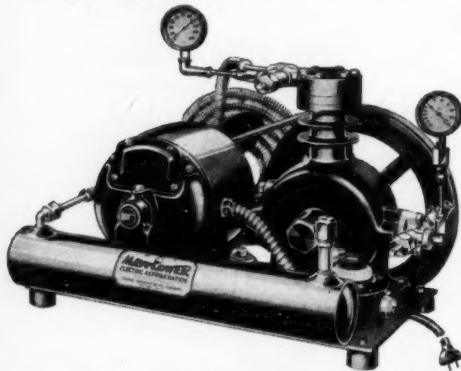

FIG. 3. SHOWING GAUGES ATTACHED
In making a low pressure switch setting, it is necessary to install a compound gauge on the compressor. See "How to Install Gauge" (8) also (Fig. 3).
See Fig. 3 showing gauges installed.
The compressor will not pull a vacuum when the piston valve is holding open. The needle on compound gauge will fluctuate back and forth slightly. (See Fig. 3).